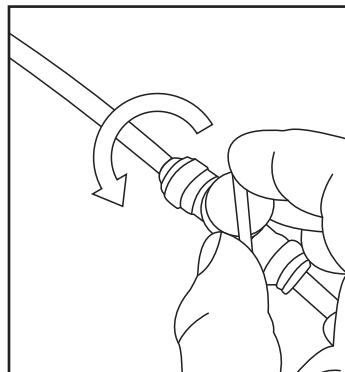

Fig 2
9. Turn on the tap making sure there are no leaks along the supply line (see Fig2).